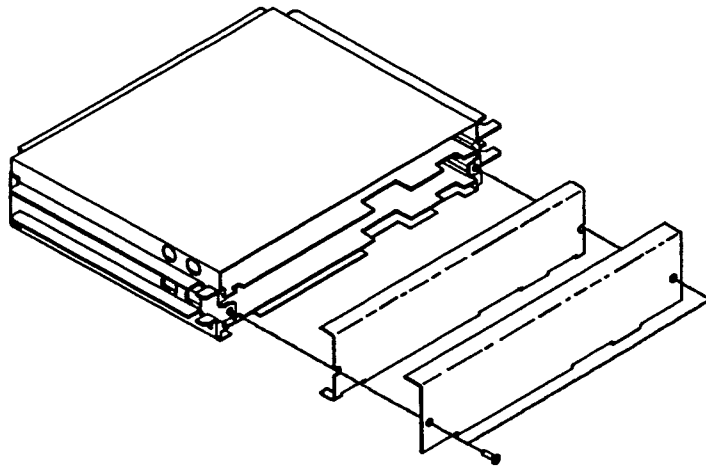

Figure 2-73. A6 Baseband Boards Shield Covers
14. Remove the two screws securing the covers to the A6 Baseband Boards Housing Assembly. See figure 2-73.